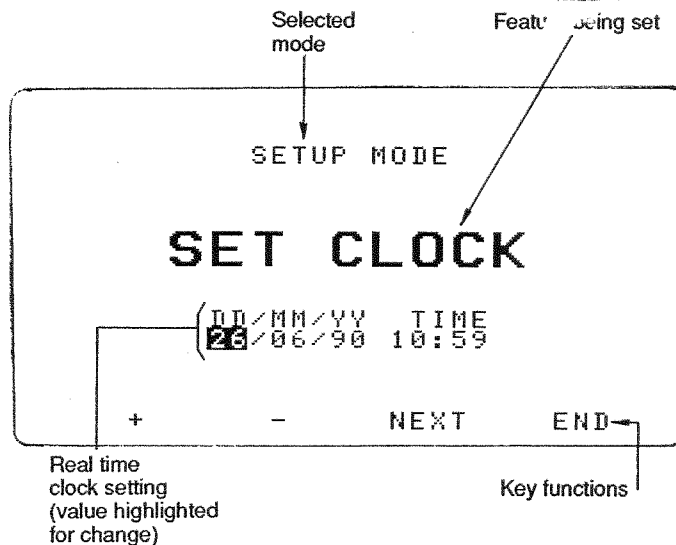

Figure 17 'SET CLOCK' screen from the 'SETUP MODE'
- To alter any of these settings press the 'CHANGE' key to move to the 'SET CLOCK' screen as shown in figure 17.
1. As before, from the 'SETUP STATUS' screen press the 'arrow head' key to select the 'SV' function option. Press the 'CHANGE' key to move to the 'SV TEST' screen as when setting up the insulation resistance test. Again the screen display is similar to that shown in figure 17.